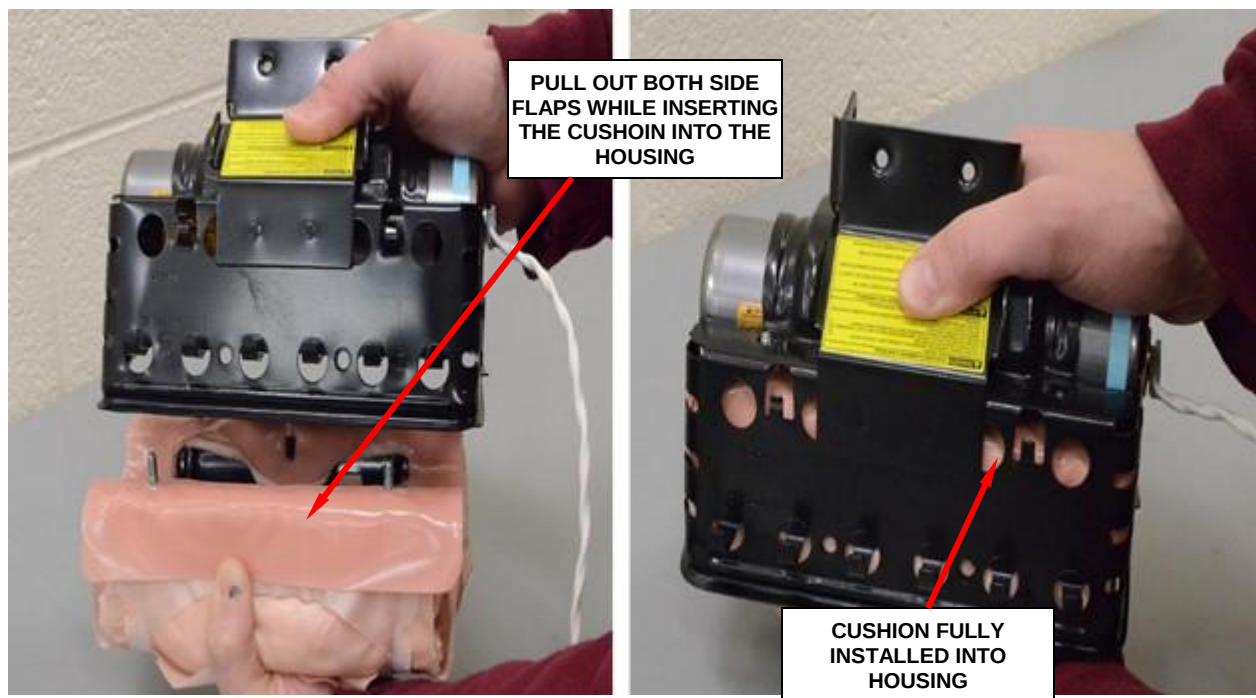

Figure 58 - Side Flaps Must Be Held Out
- l. Insert the cushion, pulling out both side flaps (Figure 58).